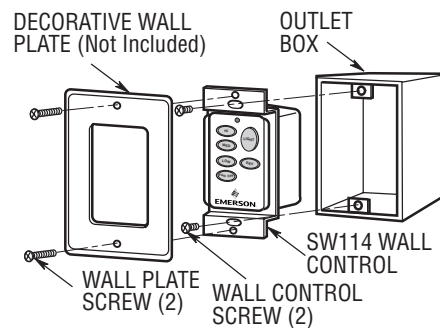

Figure 22
3. Install the wall control onto the outlet box using the supplied screws (Figure 22).
4. Install decorator wall plate (not included) using the two screws provided with wall plate (Figure 22).